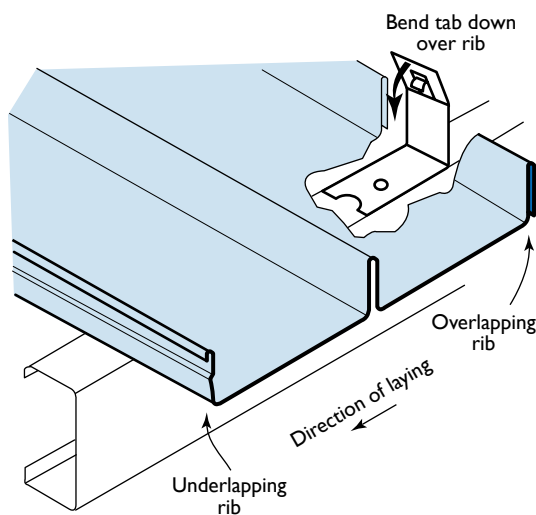

Figure 9.4.2
- orient the sheets before lifting. Note the overlapping rib is towards the end of the building where you start. (Figure 9.4.2).
1. Locate the first sheet over the fixed clips (Figure 9.4.2).